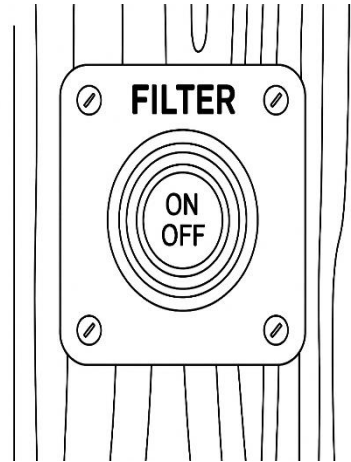

*Figure 16*
2. **Insert the Cartridge:** Remove the filter cartridge from its plastic packaging. Insert the cartridge into the filter housing, ensuring it is seated properly. **See Figure 16**Error! Reference source not found.